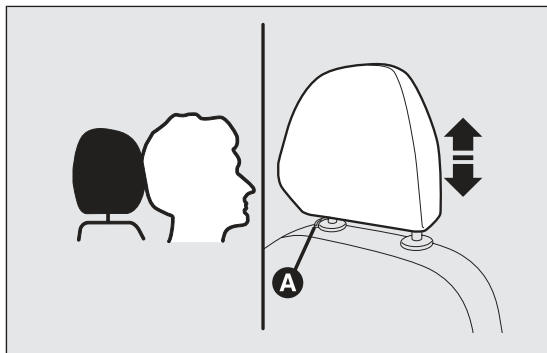

fig. 32
- ☐ Downward adjustment: press button A fig. 32 and lower the head restraint.